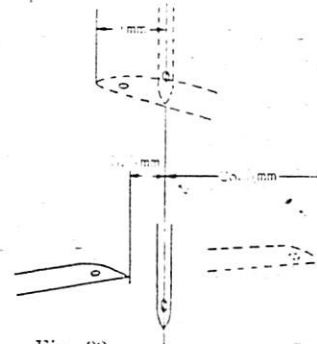

Fig. 32
1. The distance from the center of the needle to the tip of the underlooper in its leftmost position should normally be 3.5mm. (Fig.32)
2. The distance from the center of the needle to the tip of the overlooper in its leftmost position should normally be 9mm. (Fig. 32)